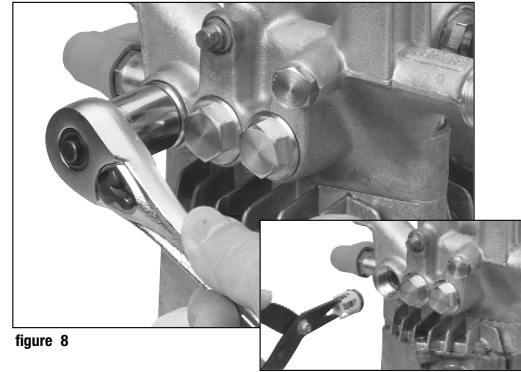

figure 8
1. Remove high pressure valve caps as shown (figure 8). Use a 17 mm wrench or socket.
2. Remove high-pressure check valve, with special valve pliers or needle nose pliers (inset figure 8).